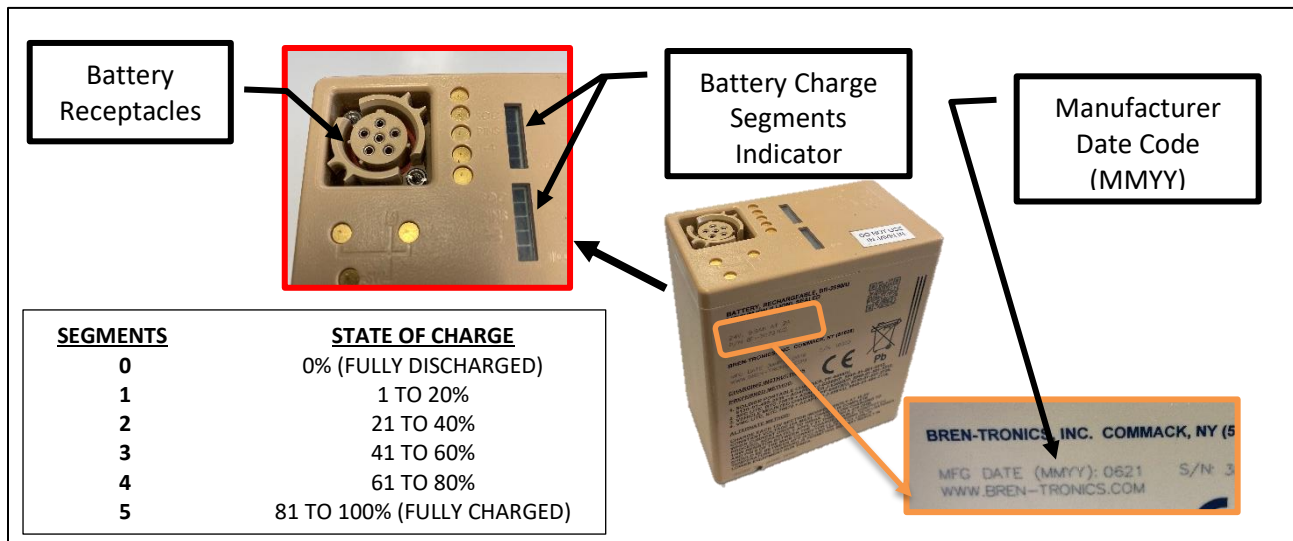

Figure 23: Inspect Battery Receptacle
- Ensure the battery contacts are clean as shown in Figure 23. Low pressure air or distilled water can be used to clean the battery contacts.
- Batteries should not be stored fully discharged for more than two (2) days without recharging. This can result in the inability to revive or recharge the batteries. Battery State of Charge can be visually verified using the indicator as shown in Figure 23.